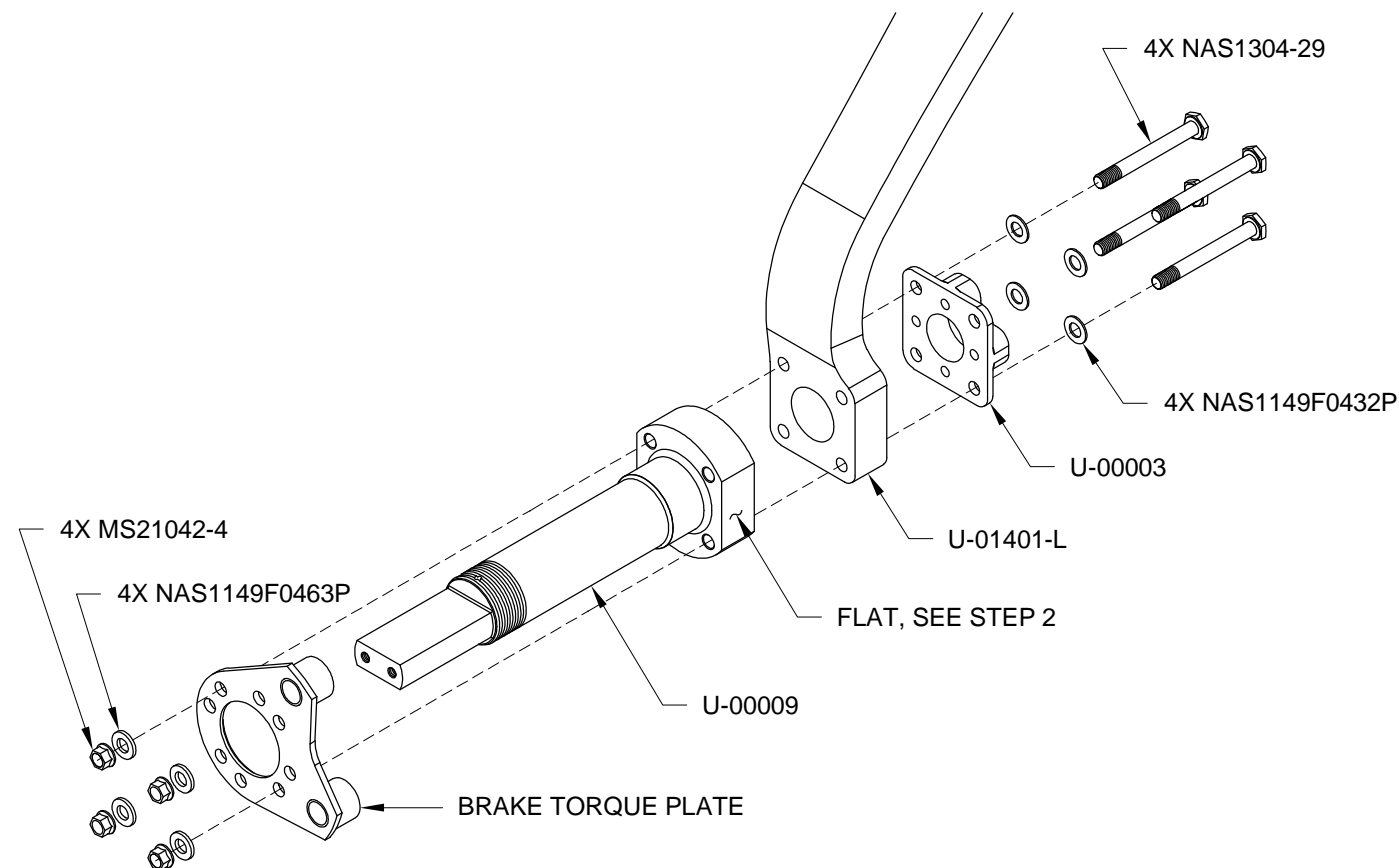
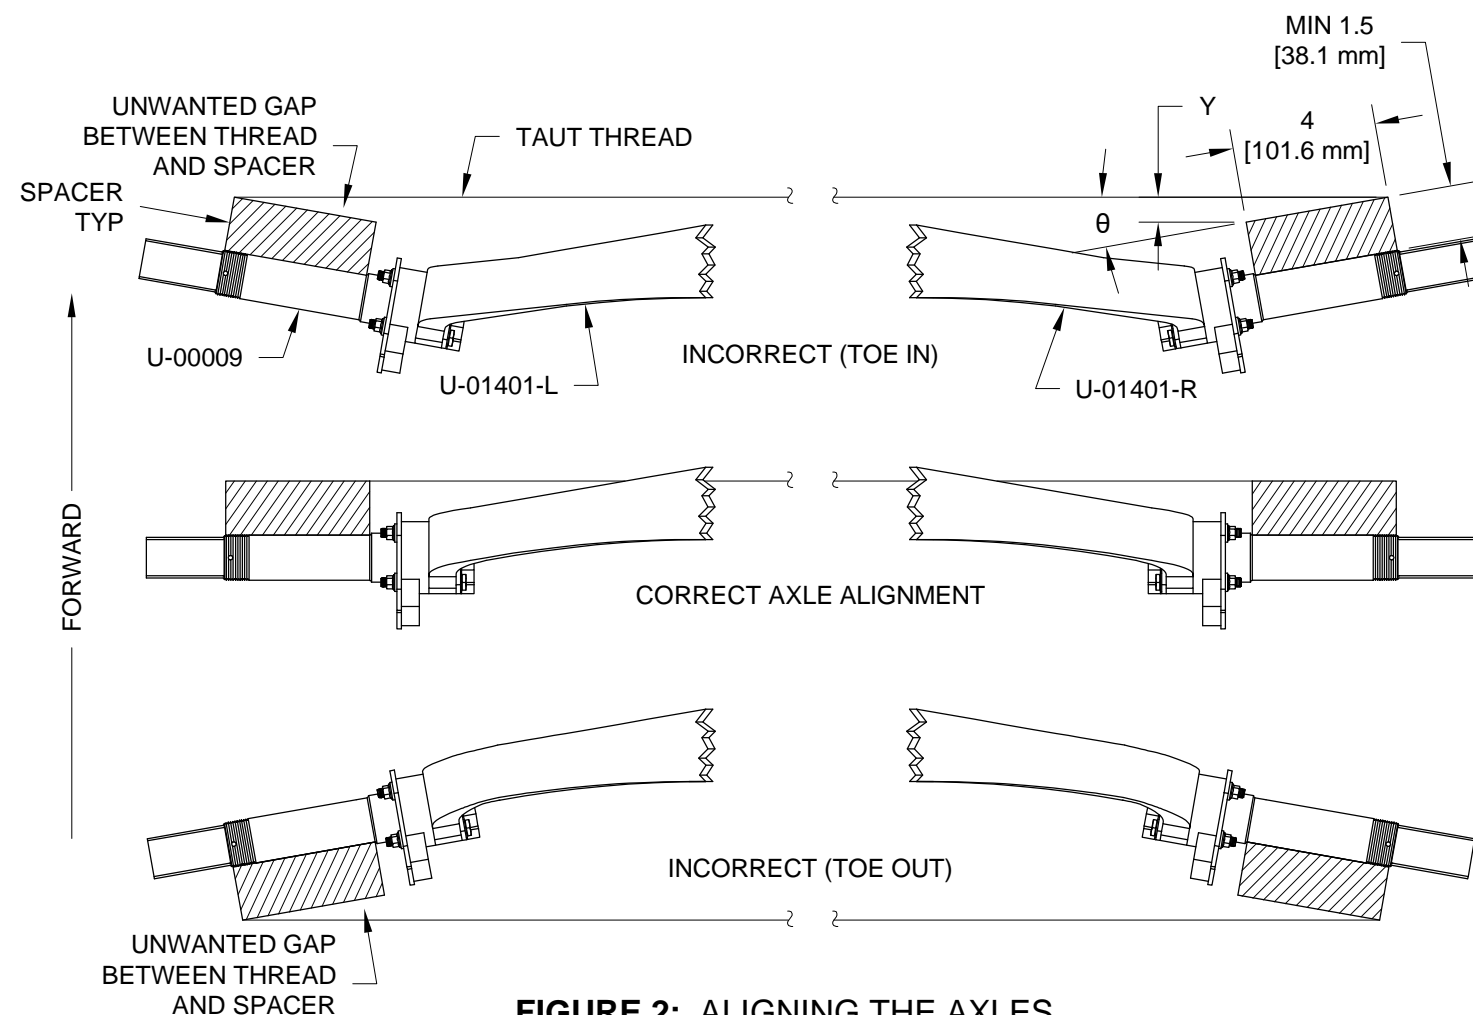

FIGURE 1: ATTACHING THE MAIN GEAR LEG AXLE
FIGURE 2: ALIGNING THE AXLES (TOP VIEW)
Step 1: Bolt together the U-00003 Bracket Mount, the U-01401-L Main Gear Leg, the U-00009 Axle, and the Brake Torque Plate using the hardware called out in Figure 1. Repeat for the right side.
Step 2: Check for correct alignment between the two U-00009 Axles as shown in Figure 2. The maximum allowable angle is 0.25° toe-in or toe-out. The spacers shown in the figure must be located on the front or back of the axles (parallel with the flats on the axle mounting flange, see Figure 1), and be the minimum thickness shown so that the taut thread will clear the back of the brake torque plates.
Table 1 is provided as an aid in determining the toe-in or toe-out angle. Refer to the upper right corner of Figure 2. Dimensions have been added to the spacer with variables 'Y' and 'θ.' Obtain the value for 'Y' by measuring the shortest distance from the thread to the corner of the spacer. Refer to Table 1, column 'Y' and locate the value closest to that just measured. Now read the corresponding angle 'θ.' For example, a builder measures Y = .063 [1.6 mm] and from Table 1 reads that .063 is closest to θ = 1°. The builder then installs the 0.75° shim.